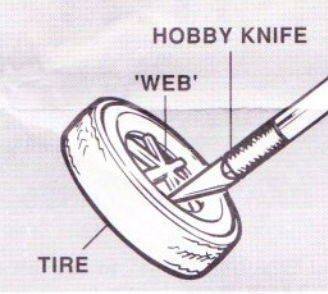

FIG. 7: FRONT WHEEL ASSEMBLY
Paint each individual part shown in this assembly Gloss Black prior to assembly. Cement both SHOCK ABSORBERS (80) to the FRAME RAILS and to the LEAF SPRINGS as shown. Cement the STEERING BOX to the left FRAME RAIL. Cement the FRONT AXLE ASSEMBLY to the bottom of the FRAME RAILS. Cement both ASSEMBLED FRONT WHEELS (STEP 2: Fig. 7) to the AXLE PINS.